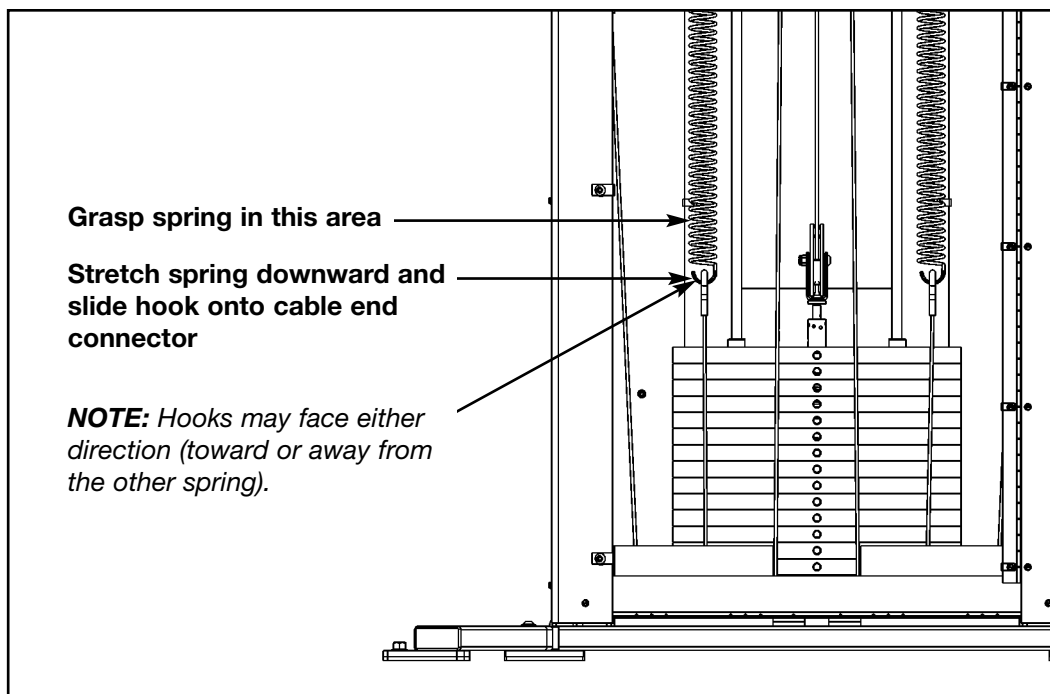

Figure 10
5. Reconnect lower end of each spring (refer to steps 5A - 5D and Figure 10).